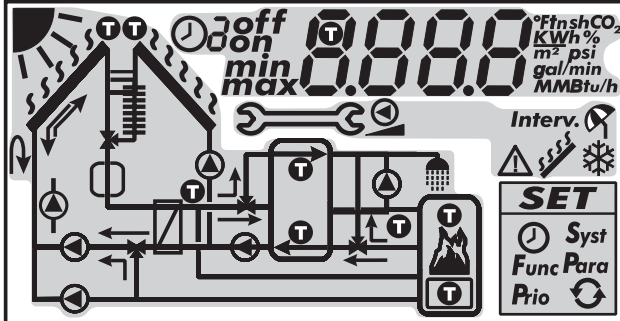

Fig. 8: Overview of the display areas (all elements visible)
The following tables describe the symbols used in the system graphics (① in Fig. 8).
① Drainback tank ② Booster pump ③ Symbol Short startup for drainage assistance ④ Symbol Draining ⑤ Symbol Filling ④ + ⑤ Symbol Stabilising
The settings menu (② in Fig. 8) contains the following entries:
The following table describes the pictograms used for functions (③ in Fig. 8).
The display of the operational and setting values (④ in Fig. 8) consists of the following elements:
①	Symbol for time control of functions. This symbol is displayed when: <ul style="list-style-type: none"> • a time restriction / control has been set, • the status of time restriction/control is displayed, • the time restriction blocks a temperature control (symbol flashes).
②	Number of the time window that is currently being set/displayed or within which the current time lies. The time control of a function consists of 1 to 3 configurable time windows. Example: Time window 1: 06:00 – 08:00 Time window 2: 11:00 – 12:30 Time window 3: 17:00 – 19:00
③	Additional information: on, off: switching state/condition on , off max, min: maximum value, minimum value Σ: summed operational value since first commissioning, cannot be reset Δ: summed operational value since last reset to 0
④	Symbol is displayed when a temperature sensor is selected when setting a function.
⑤	Display of: <ul style="list-style-type: none"> • Measurements • Settings • Error codes • Additional information, e.g. software version
⑥	Physical unit of the value displayed in ⑤: °F, F, psi, gal/min, MBtu, MBtu/h, MMBtu, %, tn sh CO ₂ Note The physical units are only displayed as appropriate.